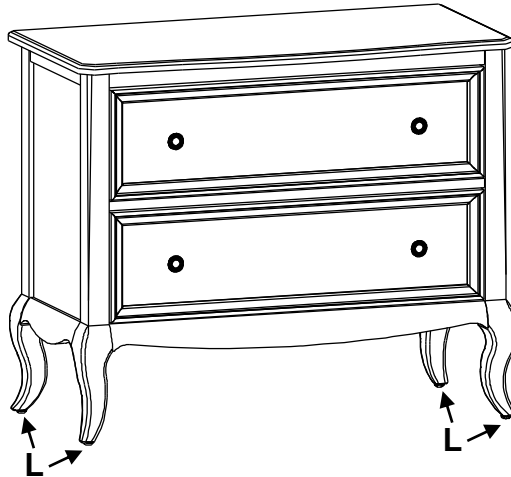

Fig. 1
1. Place the unit at its final destination. Rotate the Adjustable Glides (L) on the bottoms of the legs until the unit is level. See Figure 1.